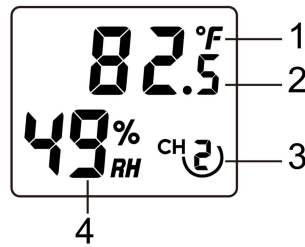

Figure 33
- 6 Verify the correct channel number (CH) and temperature units of measure (°F vs. °C) are on the display, as shown in Figure 33.